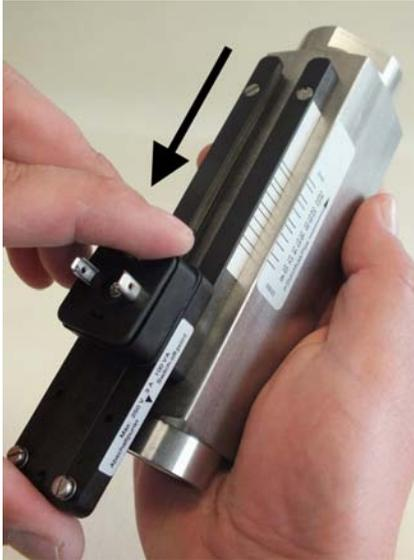

Fig. 53: Remove the switch contact from guide rails
- 4.** ➤ Slide the switch contact from the guide rail (Fig. 53)